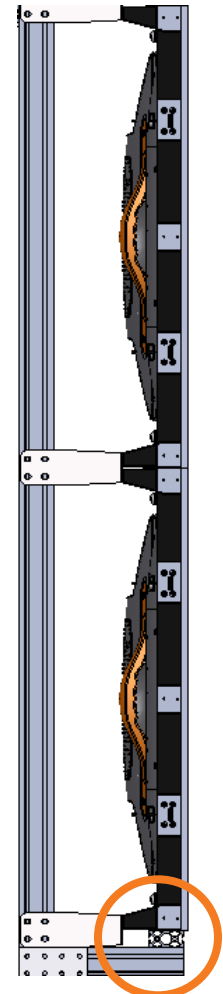

Figure 1. Leyard TWA Series cabinets must be supported from the bottom.
- Leyard TWA Series cabinets must be supported from the bottom. The lowest row will require a shelf or similar rest location capable of supporting the entire weight of the cabinets above. The support should not exceed the cabinet surface to ensure no contact with the LEDs will occur (see Figure 1).